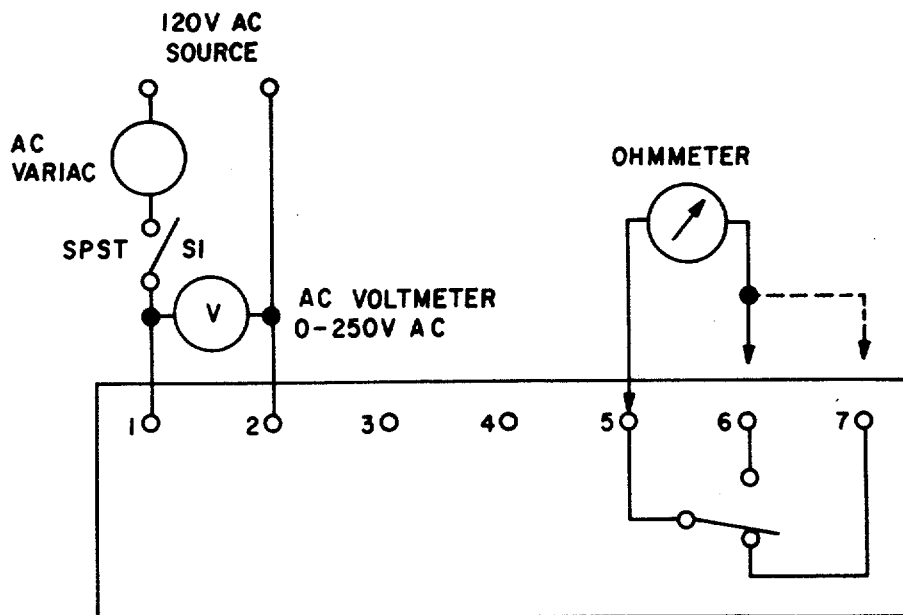

Figure 5-21. Over/under Voltage Device, Test Setup
- (1) Test the relay by connecting as shown in figure 5-21.